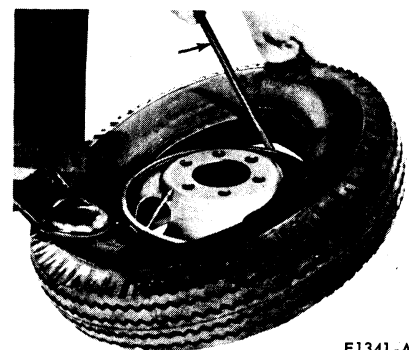

FIG. 8 Installing First Tire Bead on Wheel
1. Position the tube in the tire and place the wheel (gutter side up) on the floor. Soap both beads of the tire and position the tire on the rim. It is important that the tire be soaped well as it must be forced over the safety bead hump and the rim edge (Fig. 8).